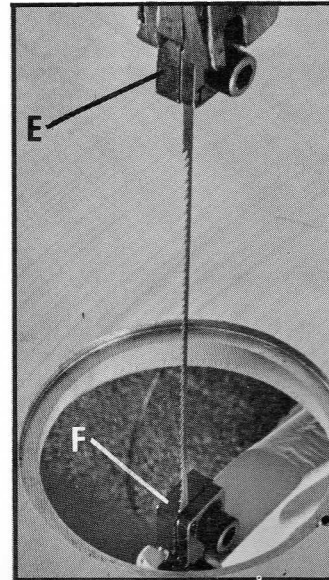

Fig. 31
5. Remove saw blade, upper blade holder (E) Fig. 31, and lower blade holder (F).